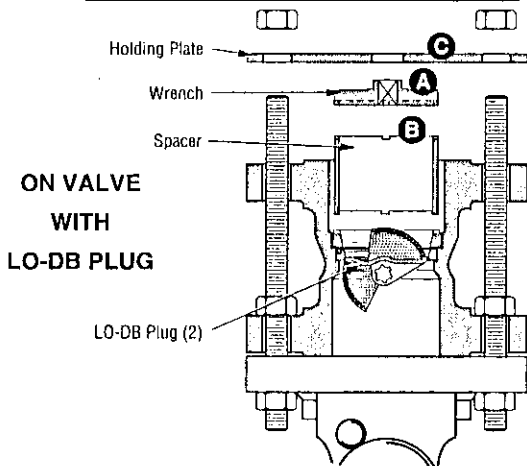

Figure 11: Seat Ring Retainer Removal and Seat Ring Alignment Devices
Figure 11 shows the tightening construction devices for flanged or flangeless valve bodies, as well as for the optional LO-DB plug.
15.1 Valve Body (figures 11, 15, 21 & 23)
- T. Tighten the two packing flange nuts (16) evenly finger tight plus one full turn.
- U. Remove retainer (5), positioning washer (4) and seat ring (3) from the body. Proceed to seat ring alignment as specified in the following Section 15.1.2 or 15.1.3.
15.1.2 Hard Seat Ring Alignment (figures 11 & 15)
- A. Place and secure valve body (1) in the device described in Figure 11 so that its seat ring shoulder is facing up. Check the proper position